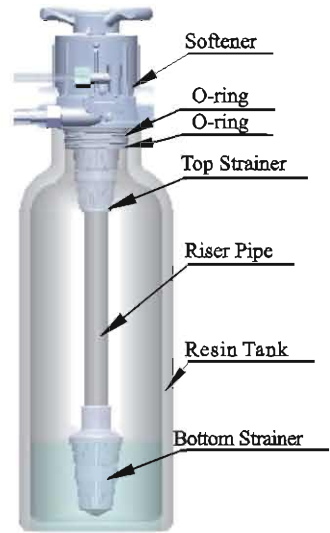

Figure 1-1
- As the Figure 1-1 shows, select the riser pipe whose size measures up to specific standard. Glue the riser pipe to the bottom strainer and put it into the mineral tank. Cut off the exceeding tube out of tank top opening. Plug the riser tube in case of mineral entering.